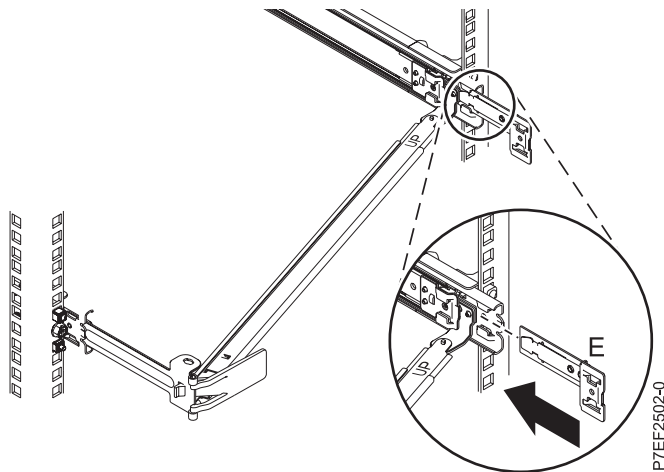

Figure 13. Installing the extension bracket into the slide rail
5. Slide the mounting bracket (C) into the right slide rail until the spring-loaded pin snaps into place. For details, see Figure 13.